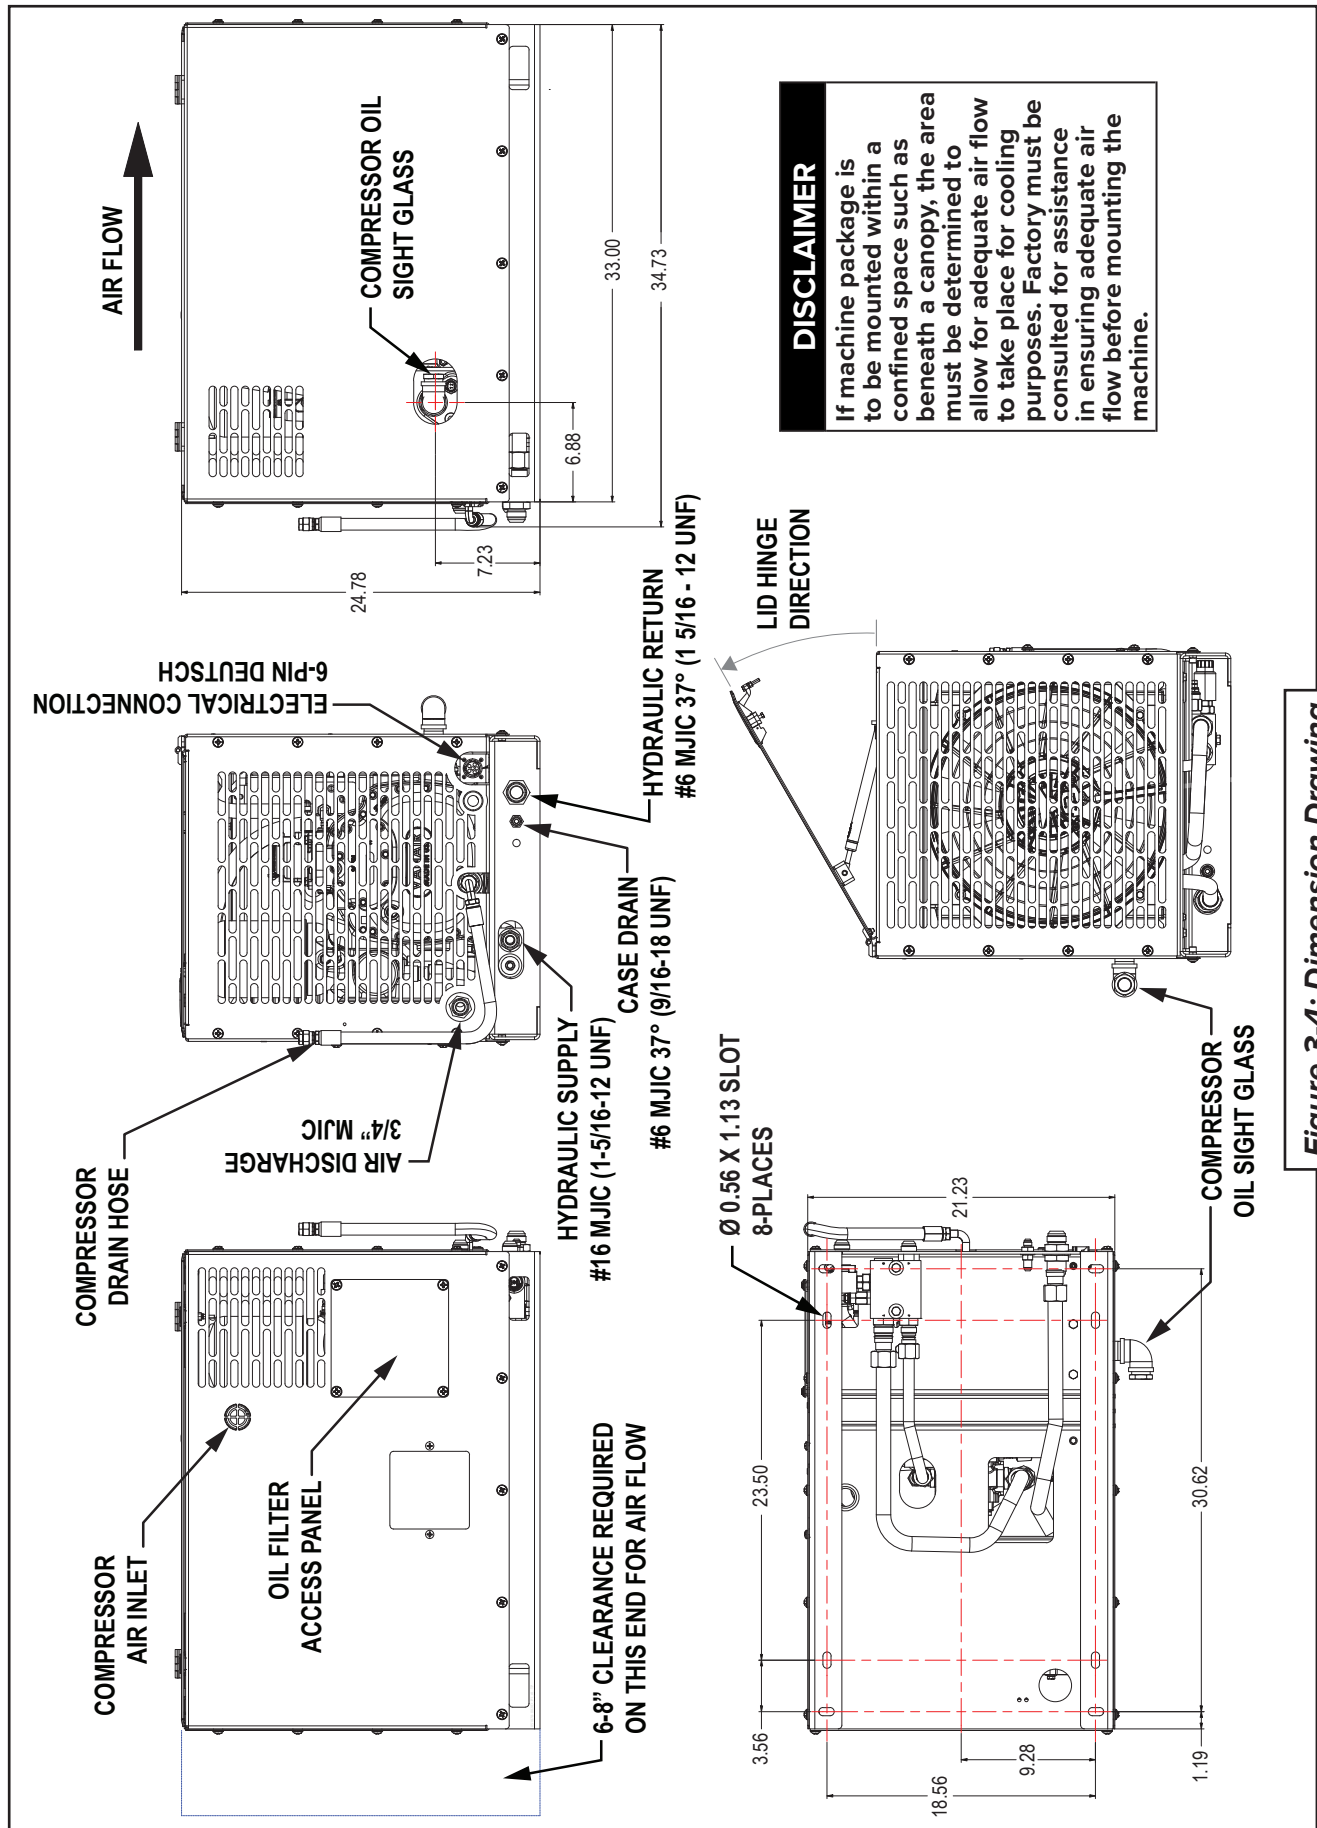

Figure 3-4: Dimension Drawing
- The location must allow for the machine dimensions (*Figure 3-4*), and additional space requirement for minimum cooling, access and maintenance.
- The mounting surface must be level and able to accommodate the (4) four mounting bolts of the base frame.
The mounting hole pattern for the bolts and dimensions can be found on the specific machine dimensions drawing (*Figure 3-4*) in this section.
It is vital to locate the machine so that there is no restriction of cooling air through the enclosure. **(Refer to Figure 3-4)** Cooling air enters the enclosure at the right end when facing the lid/ roof latches side of the machine, passes through the cooler and exits through vents in the other end.
Mounting surface or support should be sturdy enough to easily support the full weight of the machine 285 lbs (129.3 kg) and should be level during normal operation. Mounting holes are located in the frame footing for four (4) 1/2 in hold down bolts. (See **Figure 3-4** for dimensions.)
Refer to **Figure 3-4**. Service connections are conveniently grouped at the lower rear section.